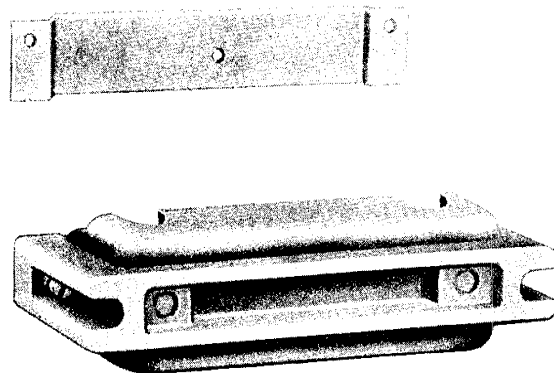

Fig. 13—46A Shield
3.11 The 46A Shield consists of a shield of insulating material containing two captive screws and a metal mounting strap (Fig. 13).